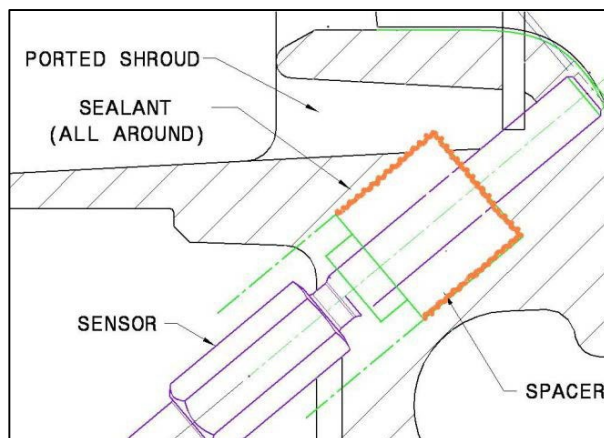

Fig. 5
5. Once the housing is machined, install the spacer with the supplied M4 screw. There are different lengths of screws supplied in the kit; the layout drawing shows which screw to use on each turbo. Do not torque the screw at this point. If your housing has a ported shroud and the machined spacer pocket has broken through to the inside, coat the outside of the spacer with RTV or similar sealant to prevent an air leak past the spacer (see figure 5).